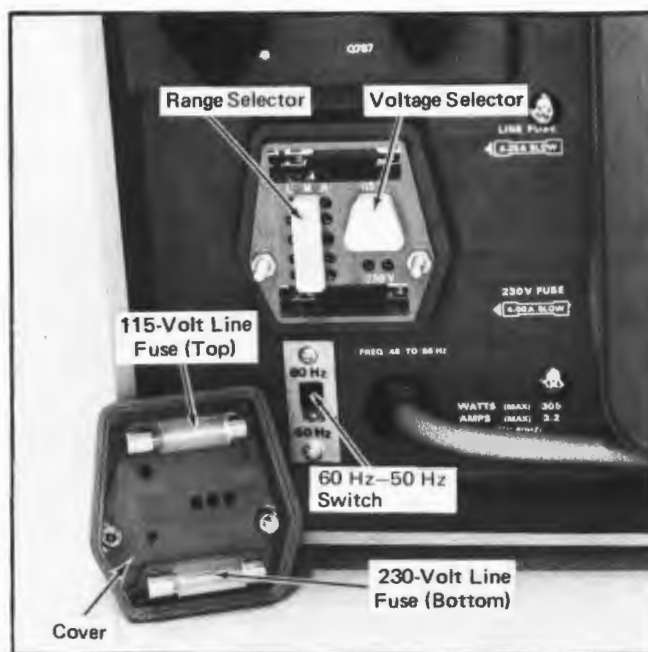

Fig. 2-1. Line Voltage Selector assembly and 60 Hz switch on the rear panel (shown with cover removed).
3. To convert from 115-volt to 230-volt line voltage or vice versa, pull out the Voltage Selector switch bar (see Fig. 2-1); turn it 180° and plug it back into the remaining holes. Change the line-cord power plug to match the power-source receptacle or use a 115-to-230-volt power plug adapter.
4. To change regulating ranges, pull out the Range Selector switch bar (see Fig. 2-1) slide it to the desired position and plug it back in. Select a range which is centered about the average line voltage to which the instrument is to be connected (see Table 2-1).
6. To convert from operation with 60 Hz line frequency to operation with 50 Hz line frequency (or vice versa), slide the 60 Hz-50 Hz switch (see Fig. 2-1) to the position which coincides with the line frequency being used.